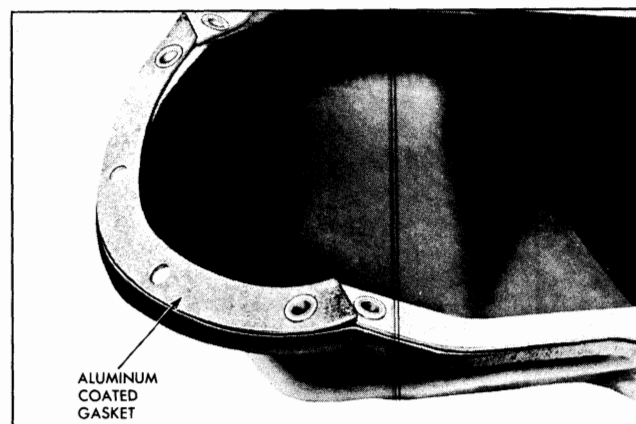

Fig. 6-53 Front Oil Pan Gasket Overlapping Side Gaskets
5. Install new oil pan to timing chain cover gasket on pan, using gasket retainers (Fig. 6-53).